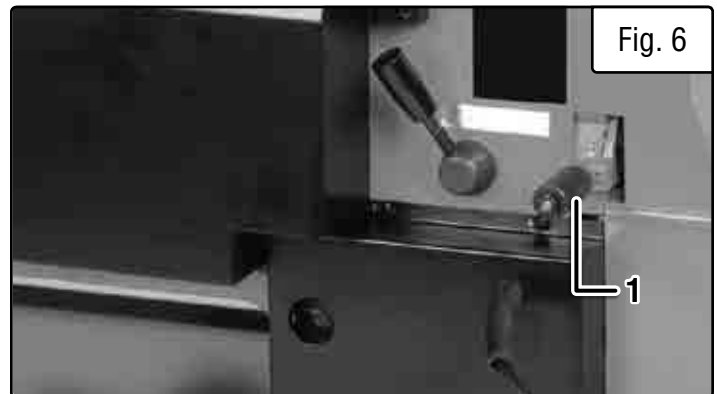

Fig. 6
2. While the unit is still turned off, set the lead screw direction lever (Fig. 6 - 1) to either left feed or right feed, using the label next to the lever. Choose your preferred direction based on the sticker next to the Lever.